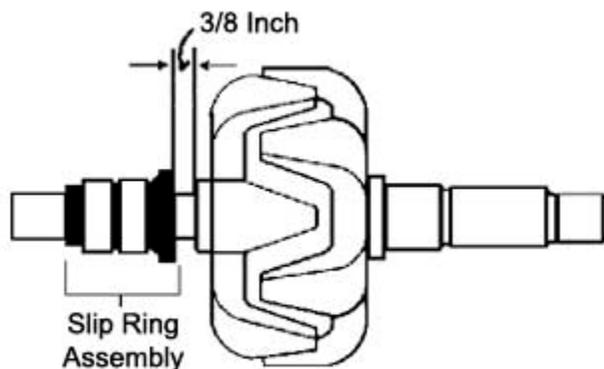

Figure 15
2.2 Place rotor in an arbor press with serrated end of shaft pointing up. Align slip ring assembly leads with the two field coil terminals and press slip ring assembly on shaft to dimension shown in Figure 15.